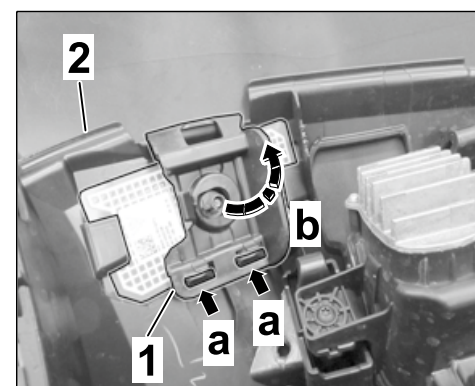

Figure 25
- 5.7.3 Open the locks ⇒ Figure 25 -1- (⇒ Figure 25 -arrow a-).
Swivel cover on holder up ⇒ Figure 25 -arrow b-.
Remove mobile communication antenna (film antenna) ⇒ Figure 25 -2- from holder (left/right air guide).